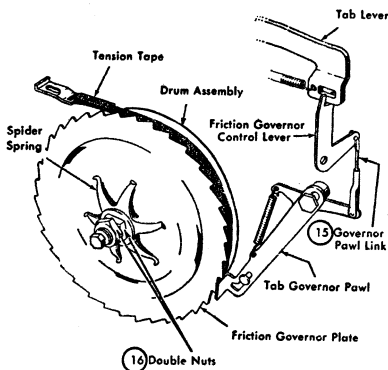

Figure 30. Tab Friction Governor
the friction governor plate by the thickness of the metal of the governor pawl (Figure 30).
16. THE TAB FRICTION GOVERNOR. Adjust by turning the double nuts and increasing or decreasing the pressure of the spider spring until the speed of tabulation approximates the speed of carriage return (Figure 30).